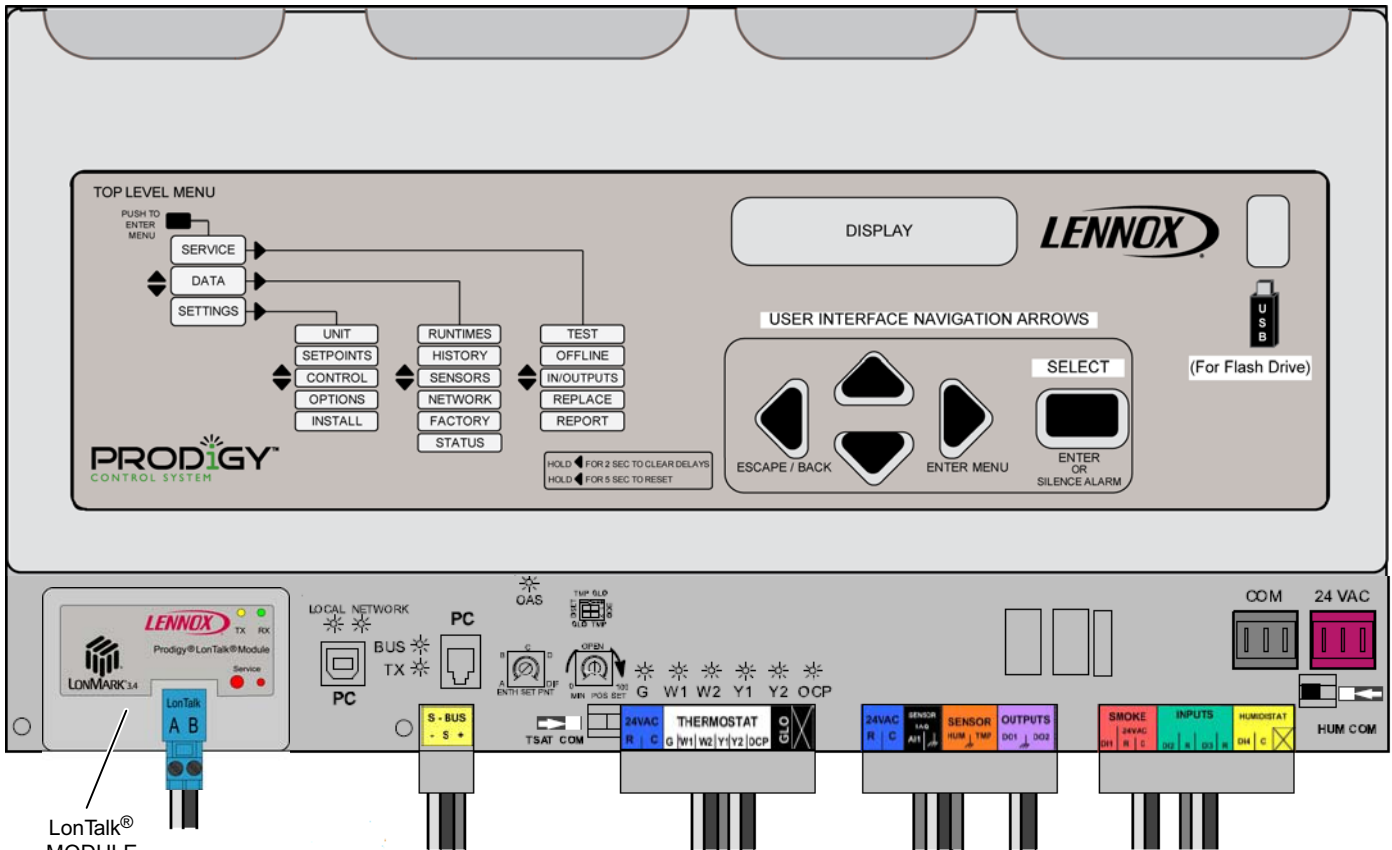

Figure 1. LonTalk® Control Module Installed on Prodigy® M2 Unit Controller
3. Plug the LonTalk module (see LonTalk module in figure 1) onto the M2 or M3 Unit Controller. Guide pins will align the module with the M2 or M3 unit controller connector.
4. Connect the LonTalk SmartWire™ connector as shown in figures 1 or 2.